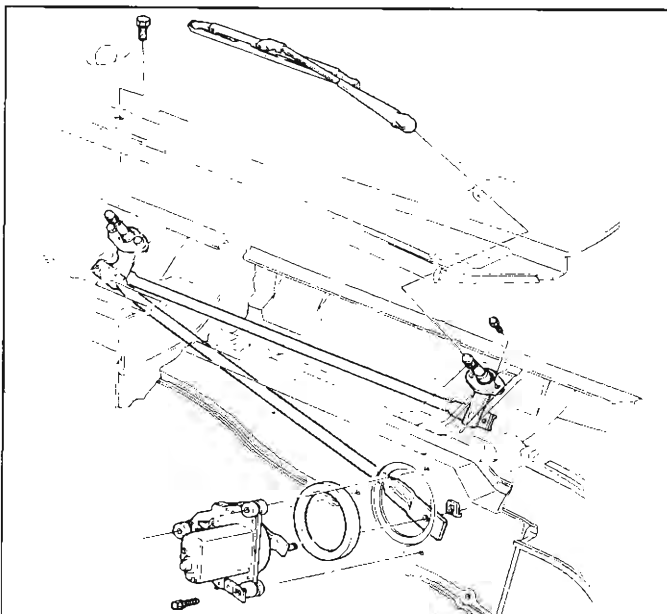

Fig. 46—Windshield Wiper Motor and Transmission Assembly (Chevelle)
**WIPER TRANSMISSION ASSEMBLY (CHEVELLE)****REMOVAL AND INSTALLATION (FIG. 46)**
**WIPER MOTOR ASSEMBLY (CHEVELLE)****REMOVAL AND INSTALLATION (FIG. 46)**